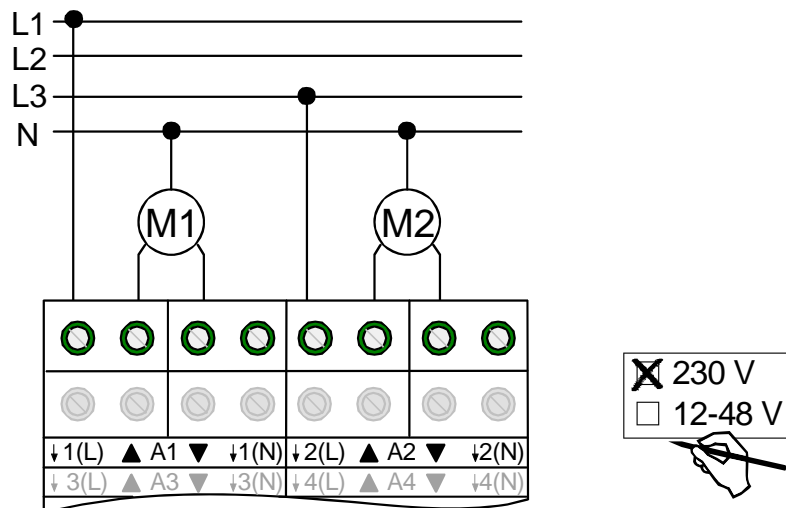

Fig. 2: Electrical connection for 230 V drives
- Connect the drives as shown in Fig. 2 (wiring example).